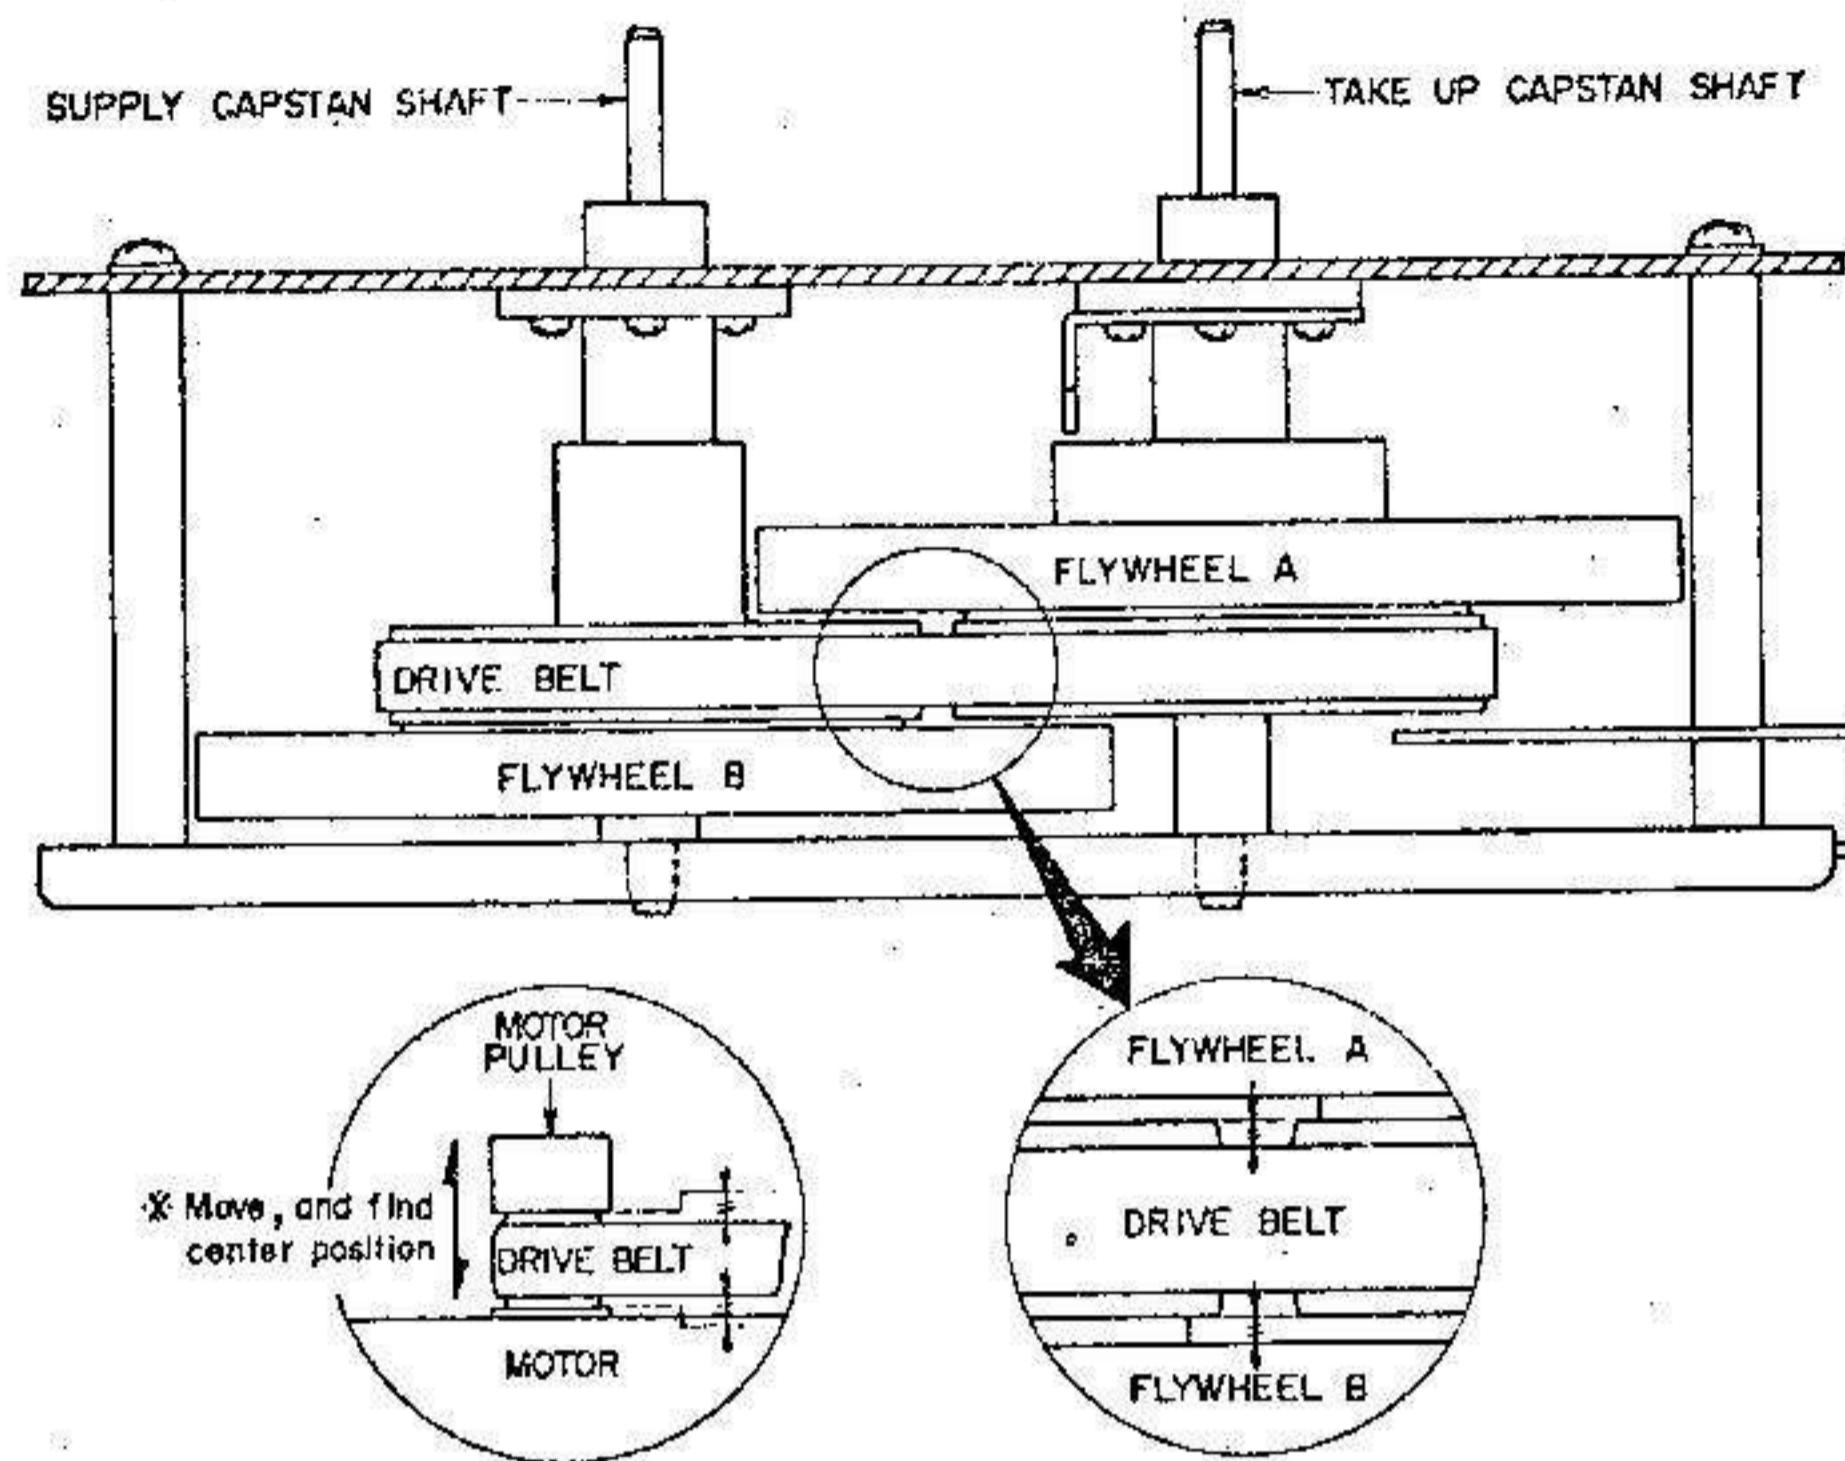

Fig. 3
- As shown in Fig. 3, the drive belt must run in the center between flywheel A and flywheel B and on the center of the motor pulley. This adjustment is made by changing the motor pulley height.